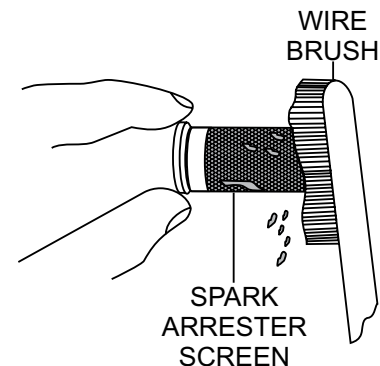

Figure 51. Cleaning The Spark Arrester
4. Carefully remove carbon deposits from the spark arrester screen (Figure 51) with a wire brush.